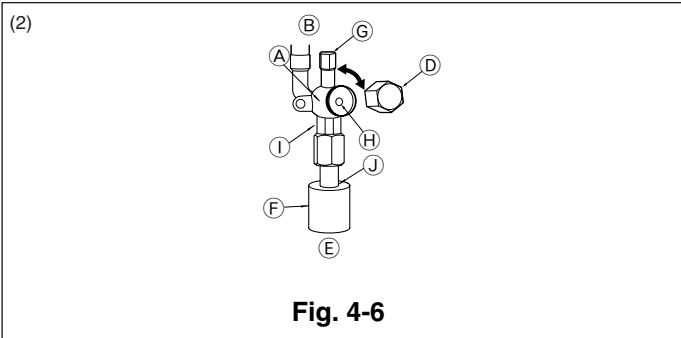

Fig. 4-6
- ① Remove the cap, pull the handle toward you and rotate 1/4 turn in a counterclockwise direction to open.
- ② Make sure that the stop valve is open completely, push in the handle and rotate the cap back to its original position.
- (2) Liquid side of A24-A42 and Gas/Liquid side of A12, A18 (Fig. 4-6)
- ① Remove the cap and turn the valve rod counterclockwise as far as it will go with the use of a 4 mm hexagonal wrench. Stop turning when it hits the stopper. (ø6.35, 1/4 inch: Approximately 4.5 revolutions) (ø9.52, 3/8 inch: Approximately 10 revolutions)